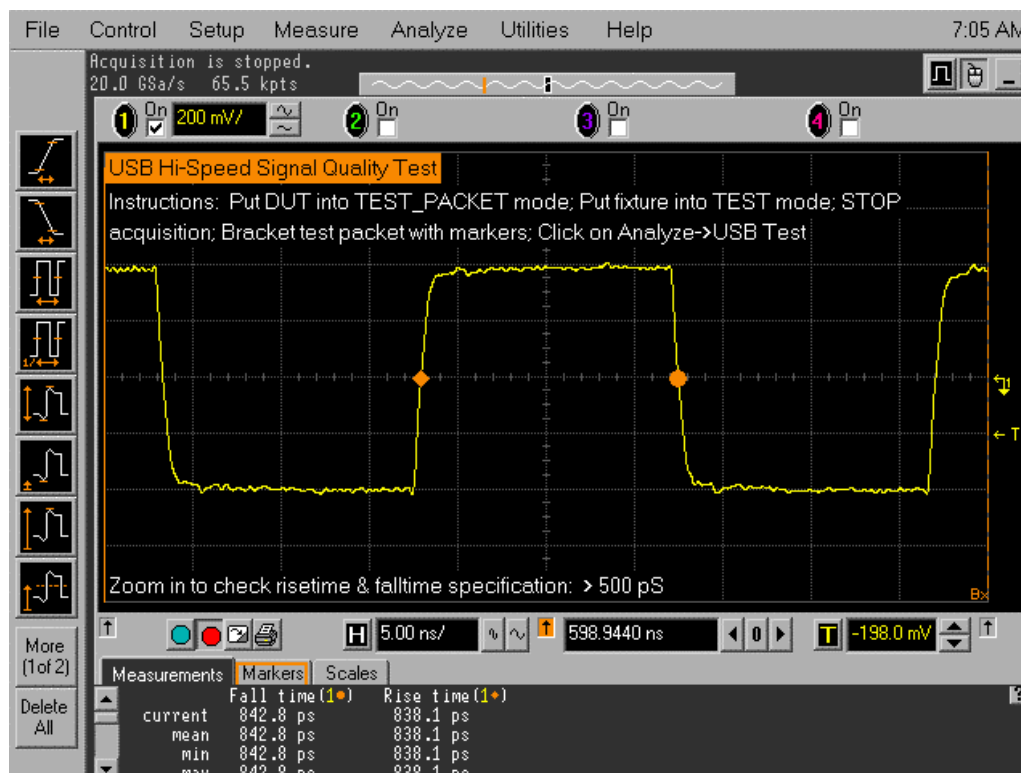

Figure 9: Rise and fall time measurement
19. Using the Horizontal knob on the oscilloscope, zoom in and check that the rise and fall times are > 500us, as shown in Figure 9.